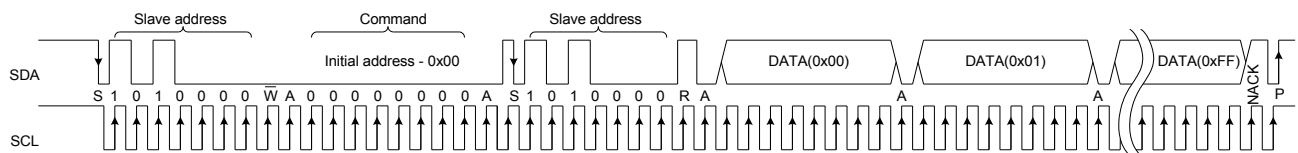

Figure 4 Whole EEPROM dump (SA = 0x50, command = 0x00)
- **Read the whole EEPROM** (see Figure 4). For maximum speed performance MELEXIS recommends that the whole calibration data is stored into the client MCU RAM. However it is possible to read the calibration data from the EEPROM only when needed during calculations. This will result in increased time for temperature calculation i.e. low refresh rate.